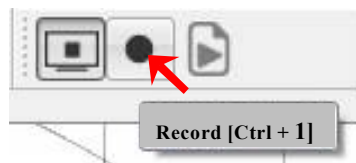

Figure 3-13 Record buttons
- ① Connect UST with Area Designer.
- ② Click record button as shown in Figure 3-13.